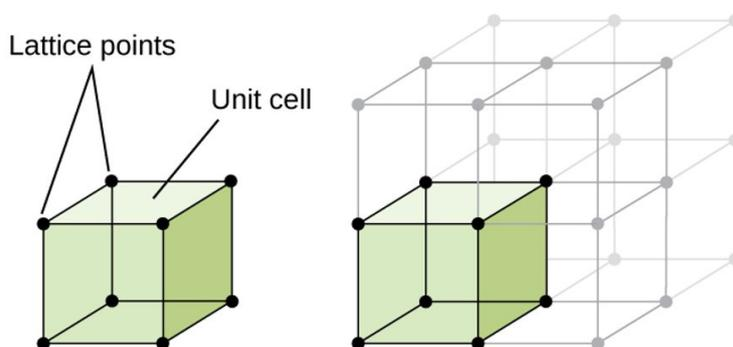

Figure 2.13 : The placements of lattice points repeat in all directions can be seen in a unit cell.
- As shown in Figure 2.13, the unit cell consists of lattice points that indicate the positions of atoms or ions.